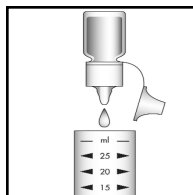

Figure 1
2. Add **4 drops** of A-9500 Activator Solution (fig 1). Stir briefly to mix the contents of the cup.